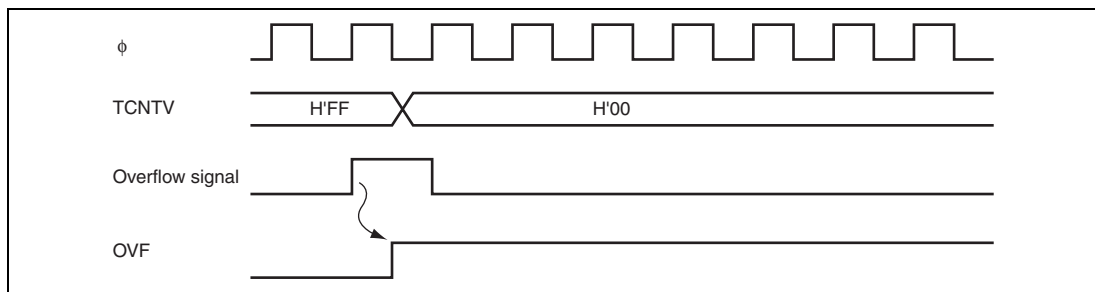

Figure 12.4 OVF Set Timing
2. When TCNTV overflows (changes from H'FF to H'00), the overflow flag (OVF) in TCRV0 will be set. The timing at this time is shown in figure 12.4. An interrupt request is sent to the CPU when OVIE in TCRV0 is 1.